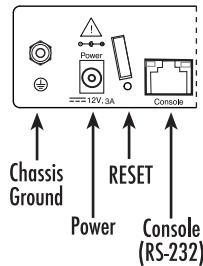

Figure 7. Power connector location on rear panel
5. Connect the power supply (see section “Verify that the green Power LED is lit (see Figure 7).” on page 30)
1. Insert the barrel type connector end of the AC power cord into the *12V DC, 1.0A* port (see Figure 7).
5. Verify that the green *Power* LED is lit (see Figure 7).